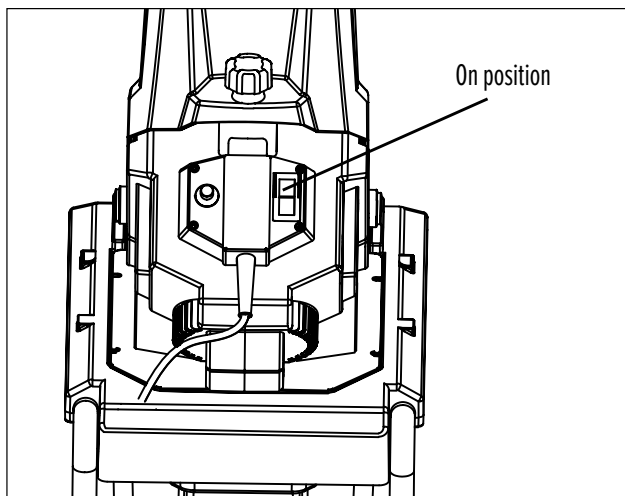

FIG. 5
- 2 To switch on the shredder, press the power ON/OFF switch to the ON position (FIG. 5).